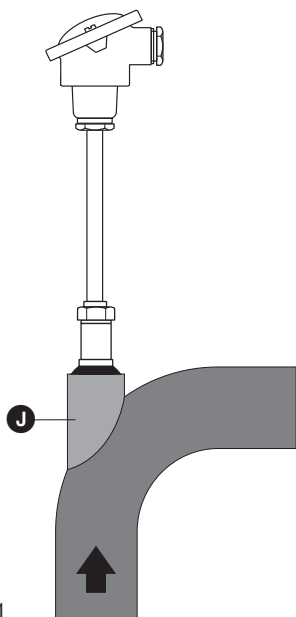
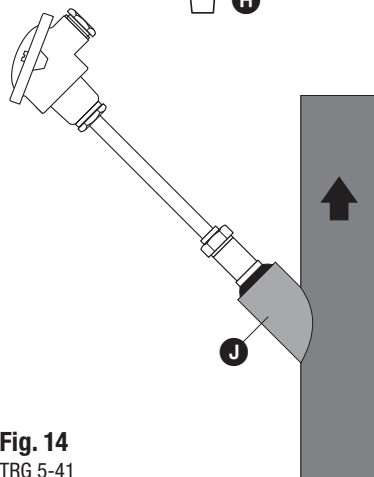

Fig. 13
Fig. 14
3. Insert the protective tube **Ⓔ** such that the measuring tip **Ⓗ** reaches 100 mm into liquids or 160 mm into gases. If a short installation length is required provide an angled piece for the sensor and ensure that the tip points against the flow direction, **Fig. 13, Fig. 14**.
- When installing the equipment in pipes weld an elbow **Ⓙ** onto the pipe, ensuring that the measuring tip points against the flow direction of the fluid, **Fig. 13, Fig. 14**.